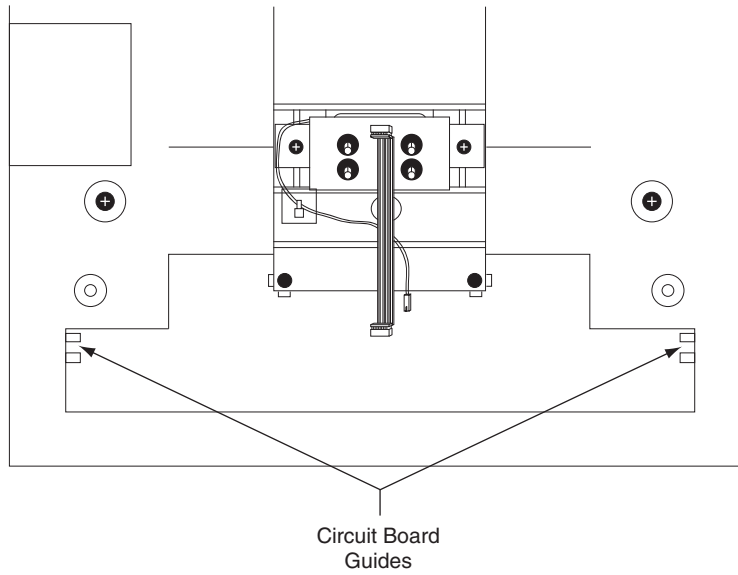

Figure 8
11. Carefully slide circuit board back into the chassis using the circuit board guides to locate the circuit board correctly. See figure 8 below.